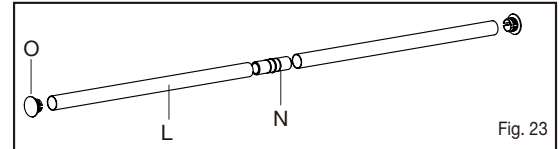

Fig. 23
- Measure length of closet rod assembly needed based on your closet layout. If your layout requires multiple closet rods to be joined, install closet rod joiner (N) to make a longer assembly (see Fig. 23).
- If joiner is needed for your layout, insert closet rod joiner (N) into one end of one closet rod (L) and then insert the exposed end of the joiner into the end of second closet rod (L). Repeat this step for longer assemblies where needed (see Fig. 23).
- Push end caps (O) into finished ends of closet rod (L) (see Fig. 23).